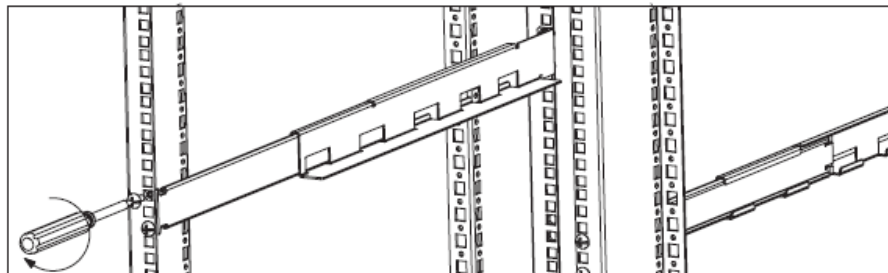

Figure 6
Step 2: Use 4 M6 screws to mount the right and left rail sliders to the two back posts of the four-post rack. Refer to Figure 6 below.